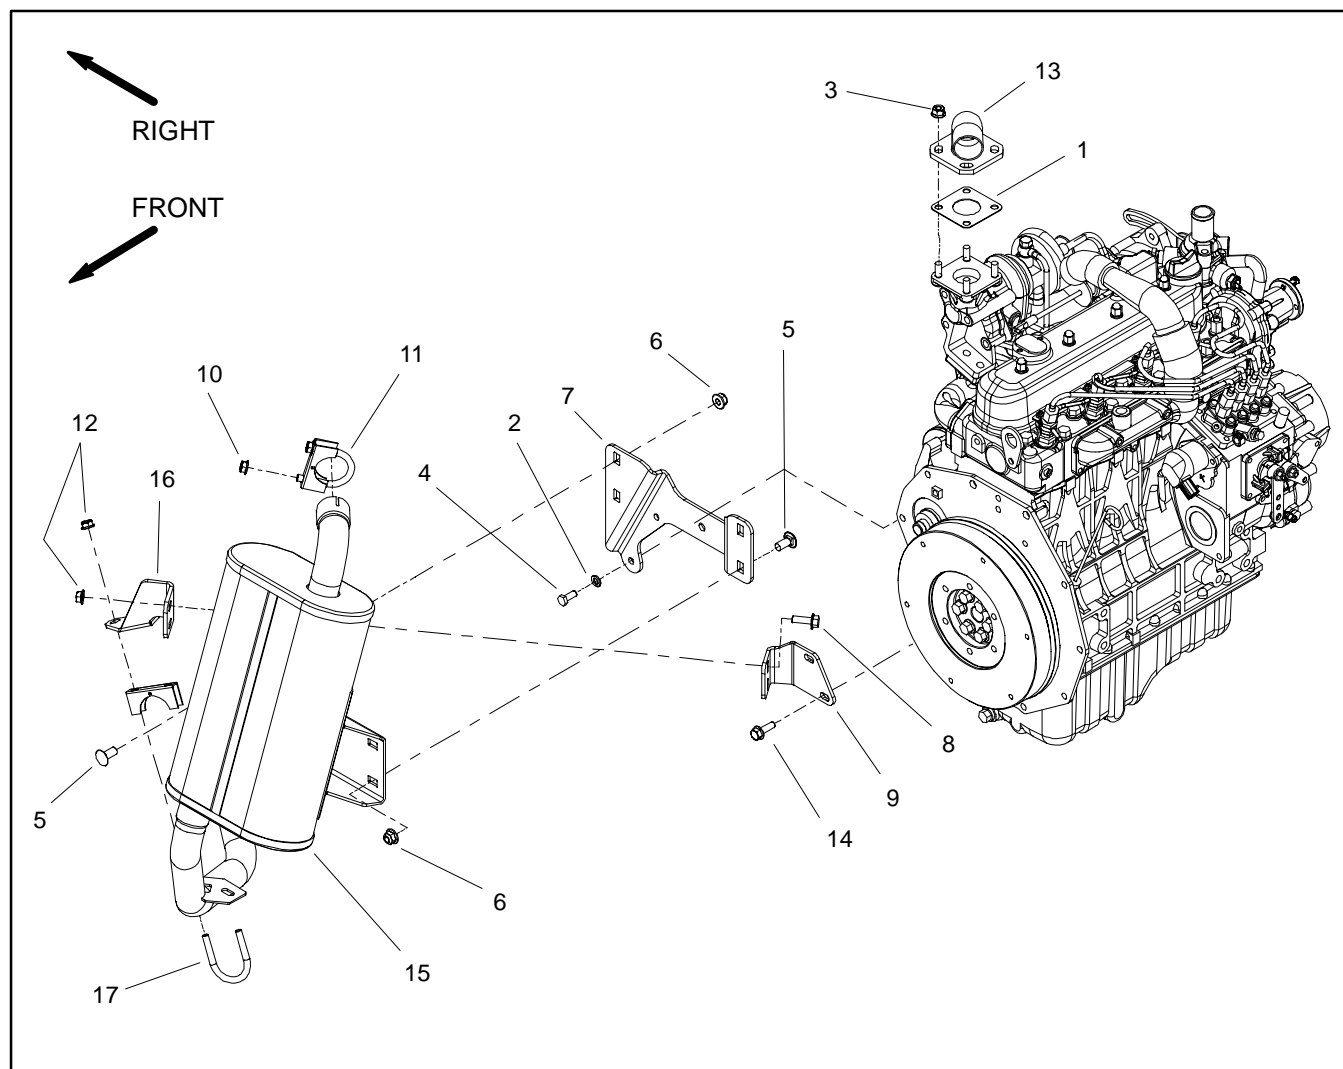
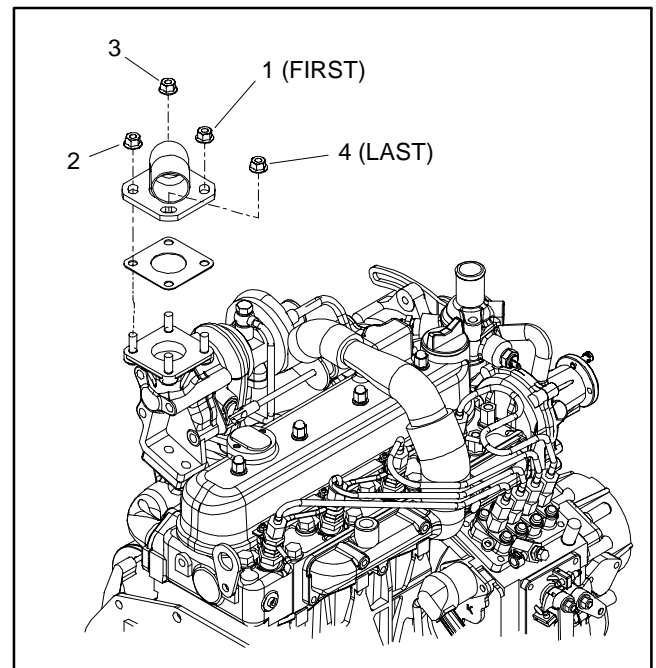

Figure 6
Figure 7
Removal (Fig. 6)
2. Remove exhaust system using Figure 6 as a guide.
Installation (Fig. 6)
3. Install exhaust system components to the engine using Figure 6 as a guide. Finger tighten all fasteners until all exhaust system components have been installed.
A. Lift muffler as much as holes in muffler support bracket (item 7) will allow. Tighten flange nuts (item 6) to secure muffler to support bracket.
B. Tighten flange nuts (item 3) to secure exhaust header (item 13) to engine flange using order shown in Figure 7.
C. Tighten hex nuts (item 10) to secure upper clamp (item 11).
D. If tail pipe bracket (item 9) was removed, tighten flange head screws (item 14) to secure bracket to engine.
E. Tighten flange nuts (item 12) to secure lower clamp (item 17).
F. Tighten fasteners (items 8 and 12) to secure tail pipe brackets (items 9 and 16).